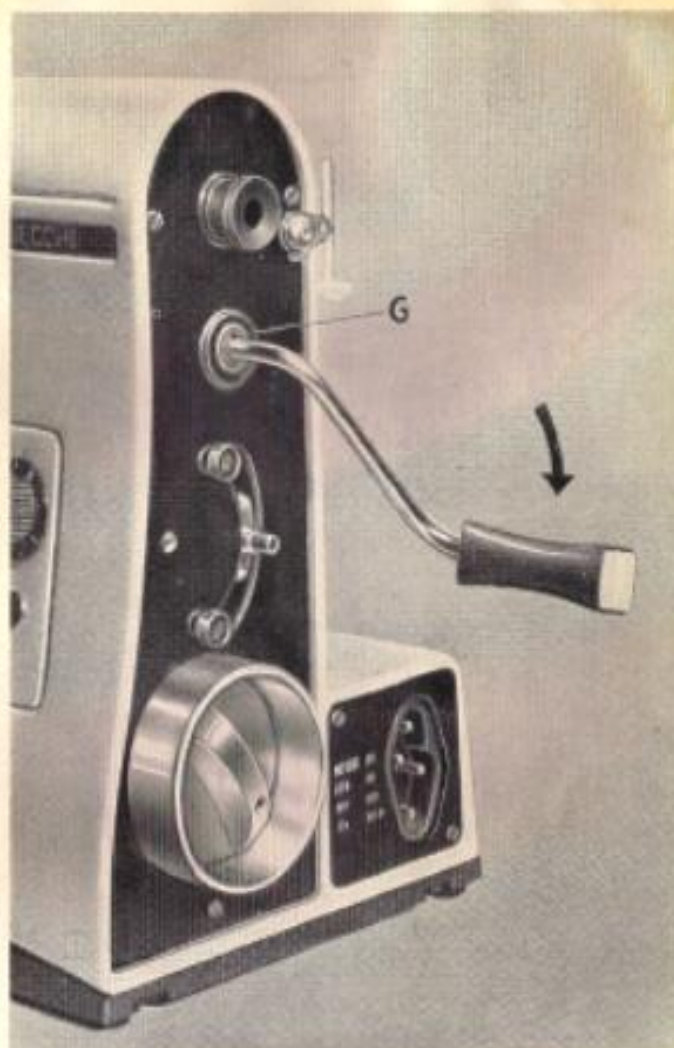

Fig. 3
- Insert hand crank in « G » (Fig. 3), to be rotated in the direction of the arrow.